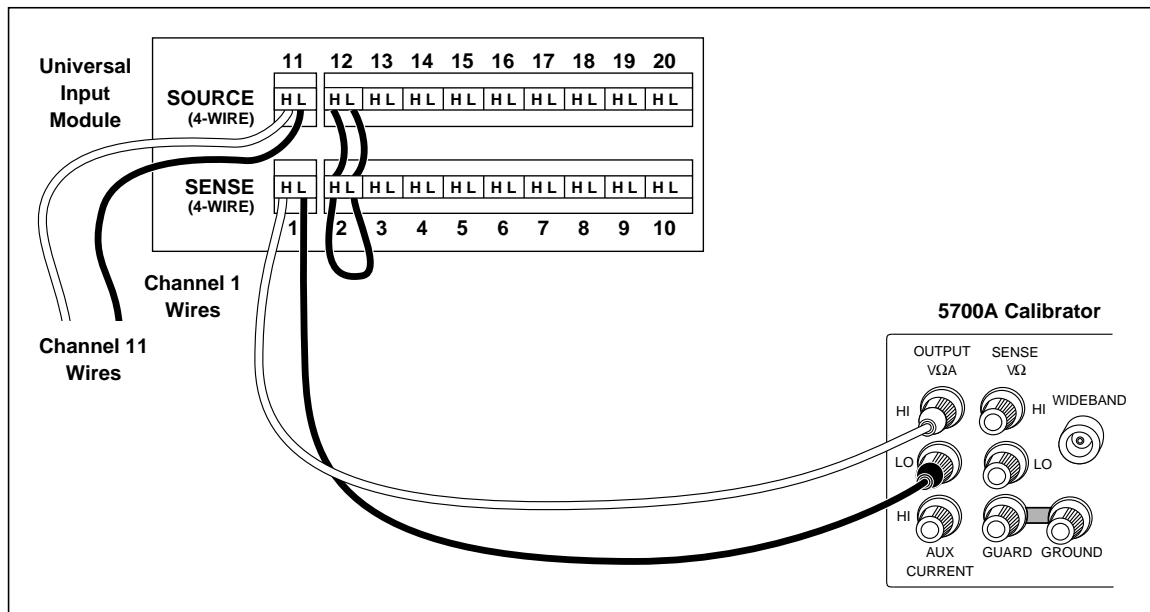
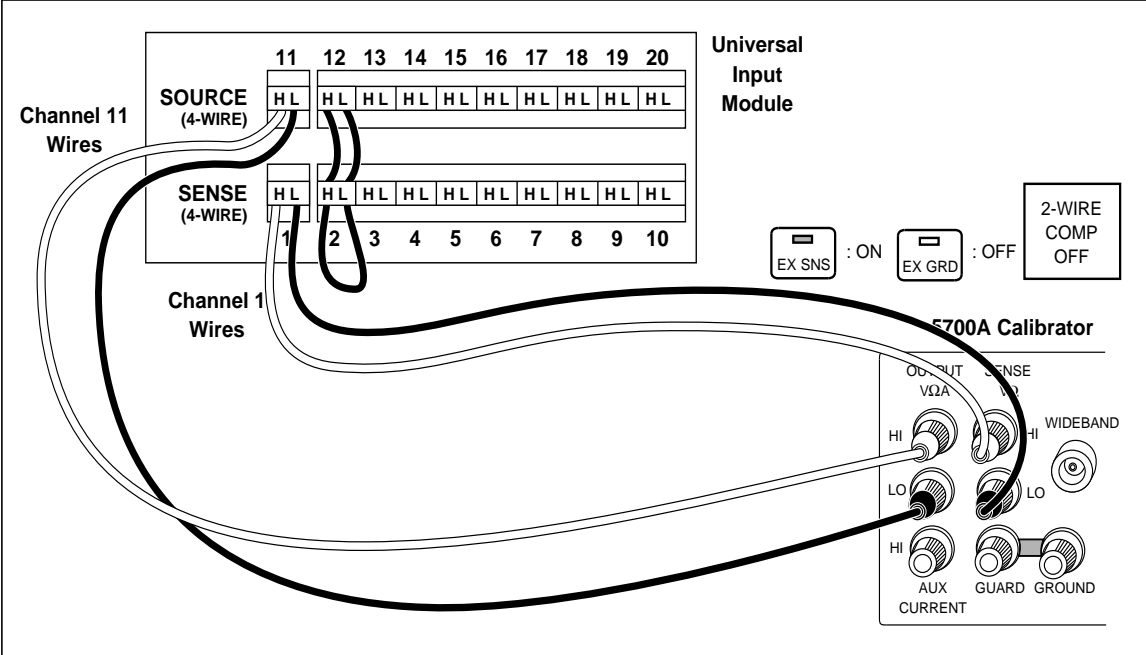

Figure 5-3. Two-Wire Calibration Connection
Figure 5-4. Four-Wire Calibration Connection
There are two connection methods used between the leads from the device Universal Input Module and the 5700A Calibrator. The volts dc, volts ac, and resistance functions use the two-wire connection shown in Figure 5-3. The resistance function uses the four-wire connection shown in Figure 5-4.
2. Connect the device and 5700A Calibrator as shown in Figure 5-3.
2. Connect the device and 5700A Calibrator as shown in Figure 5-4.